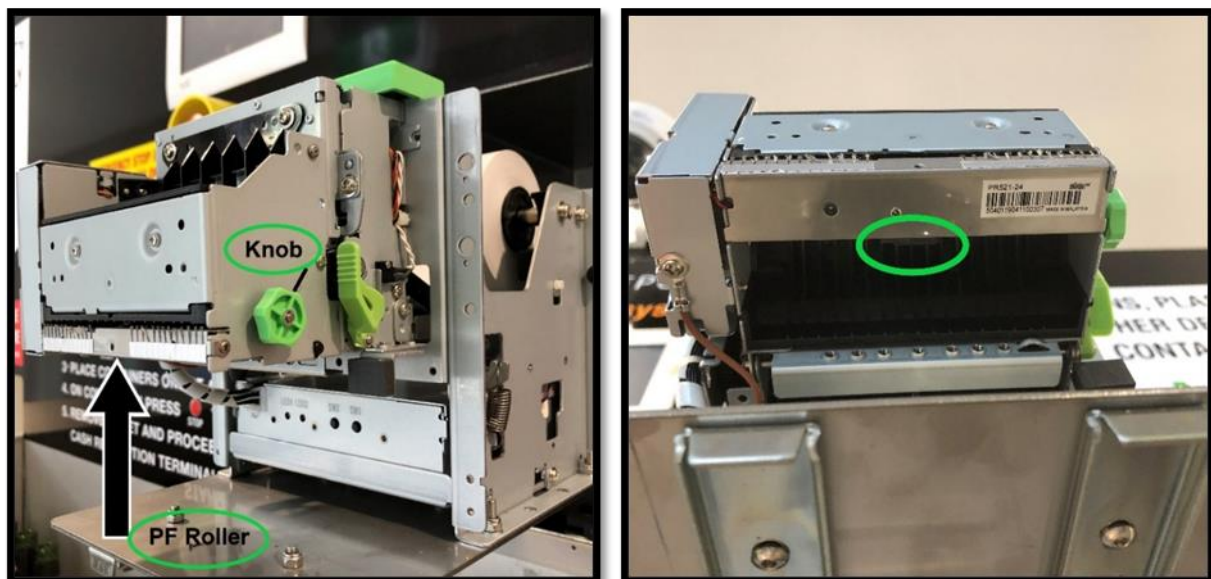

Figure 79. Printer Roller Cleaning
- Locate the small PF roller under the printer head as seen on Figure 79